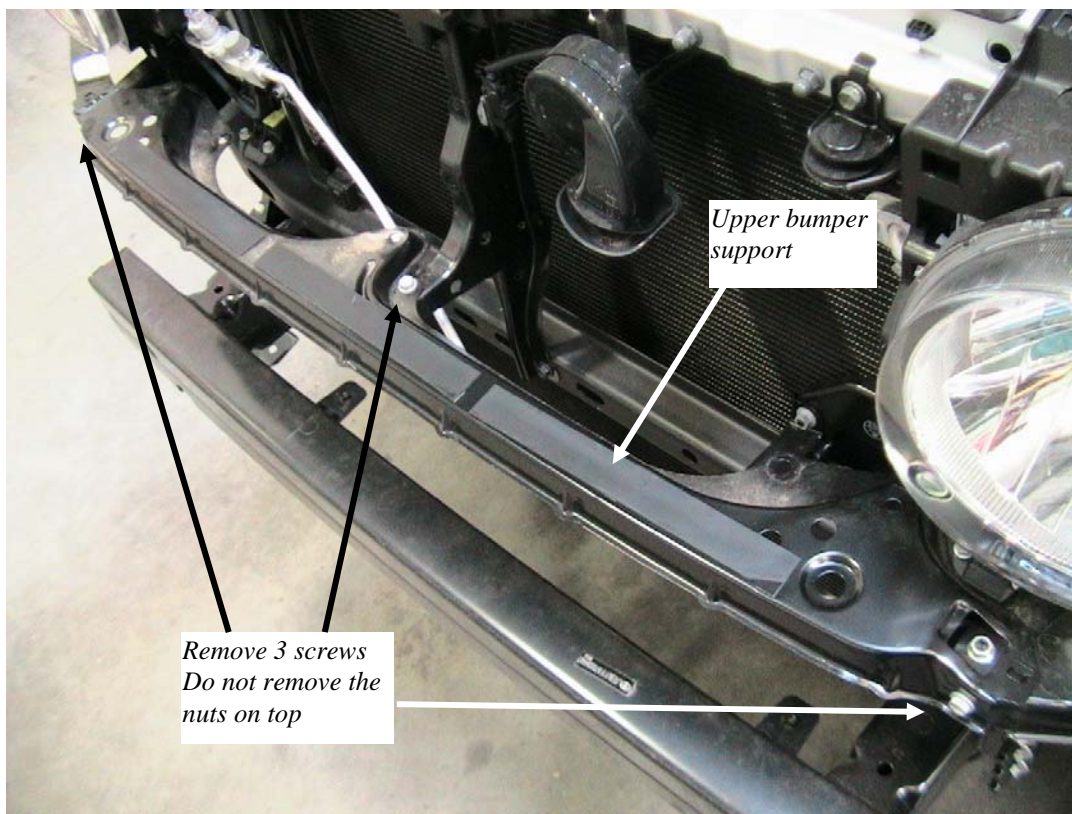

Figure 9 Upper bumper support
9. Remove the three screws and remove the upper bumper support. **Figure 9**